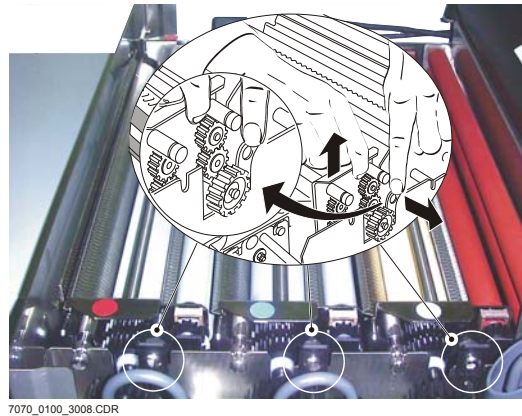

Fig. 4
- Remove the racks by lifting them up by the handles on the sides and releasing the fastener clip (Fig. 4).